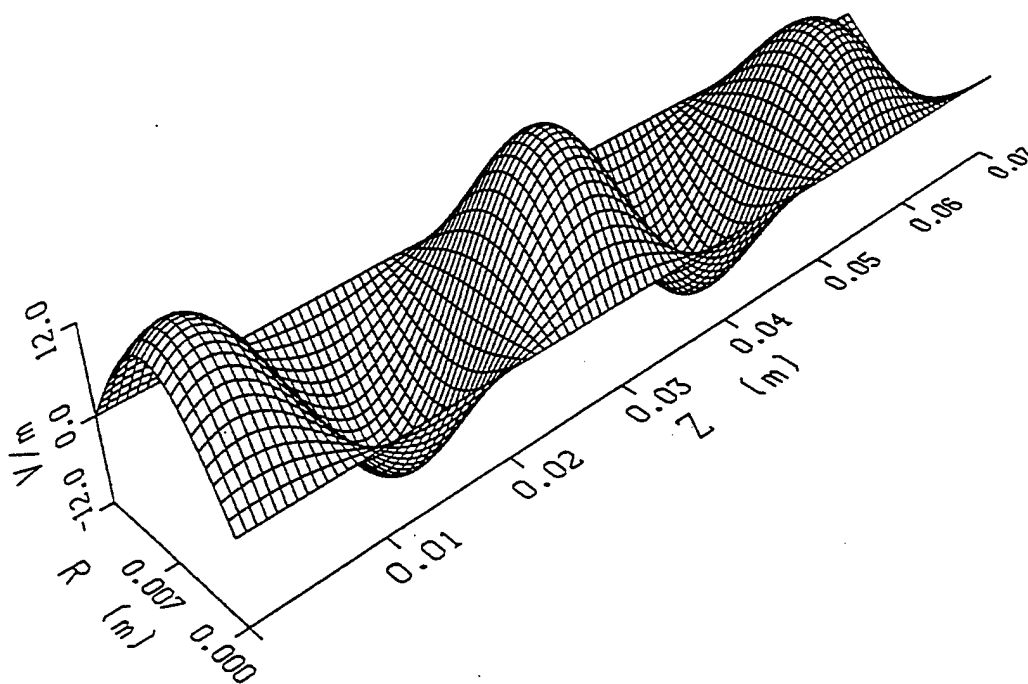

Figure 24-5. Perspective plot of the azimuthal electric field at time 0.4 ns.
3. Consider the case of a hollow cylindrical waveguide. The waveguide is excited from the left in a TE_{10} mode. The three-dimensional perspective plot of E_θ , the azimuthal electric field in the waveguide shown in Figure 24-5, was created using the following commands. The simulation employed the cylinder (z,r) coordinate system.